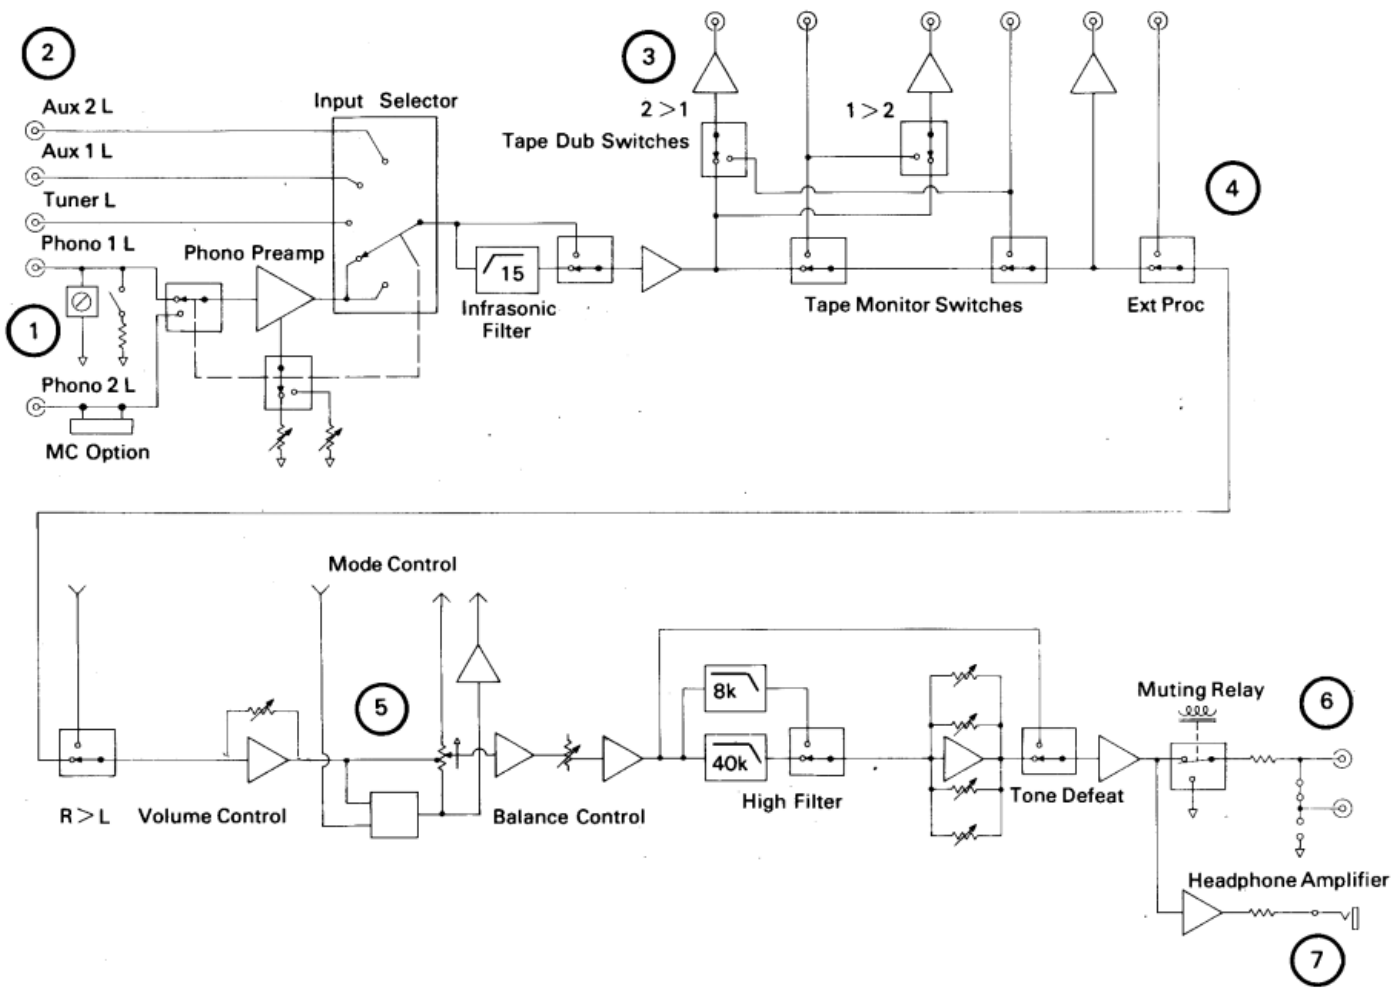

Fig. 5-1. Block Diagram.
- 5.1** Before disassembling the unit, it is advisable to check quickly all of the preamplifier's functions, both to make sure that the problem you wish to repair has been correctly identified and to isolate the section of the unit in which the problem occurs (see Fig. 5-1). In many cases you will find that, because of the number of controls, much of your initial troubleshooting can be done before the case is even removed. If you can identify a problem as belonging to the switchboard (areas in dashed lines on the schematic), you will not need to remove the unit's top cover; releasing the switchboard by its four mounting screws will suffice (see Section 6.4).
- 5.3** Use the Block Diagram, Fig. 5-1, to isolate the problem. Note, for example, that a suspected problem in the muting relay can be identified by examining the output of the headphone amplifier. Likewise, a problem suspected in the tone controls can be positively identified as such by activating Tone Defeat.
- 7.1 **General.** Familiarize yourself with all of the front panel controls and with the Block Diagram (Fig. 5-1). Much can be learned very quickly from intelligent use of the controls, and a problem can often be more quickly localized in this way than by hunting for test points.